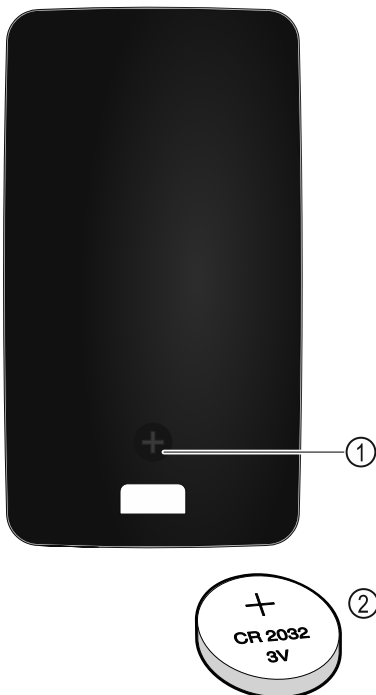

Fig. 149
The remote control is powered by a 3V CR 2032 battery Fig. 149 (2) available from specialist retailers.
- ▶ Undo screw Fig. 149 (1) on the back of the remote control.